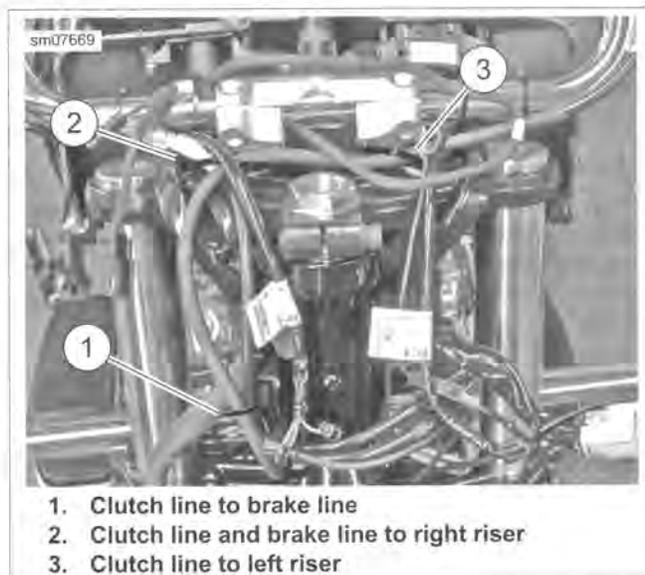

Figure 2-58. Capture Clutch and Brake Fluid Lines (Fairing Models) (Fairing removed for photo clarity)
- b. **Fairing models:** See Figure 2-58. Secure brake line and clutch line to right riser with **new** cable strap (2). Secure brake line to clutch line with **new** cable strap (1).